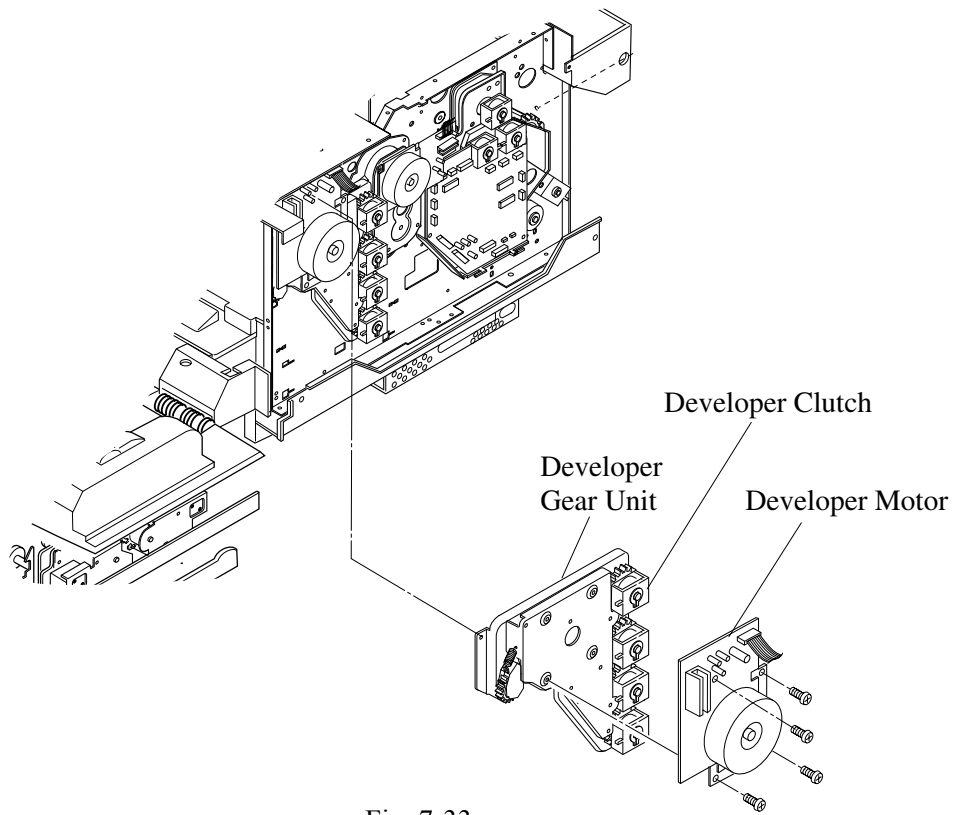

Fig. 7-33
7.3.3.2 Disassembly Procedures (see Fig. 7-33)